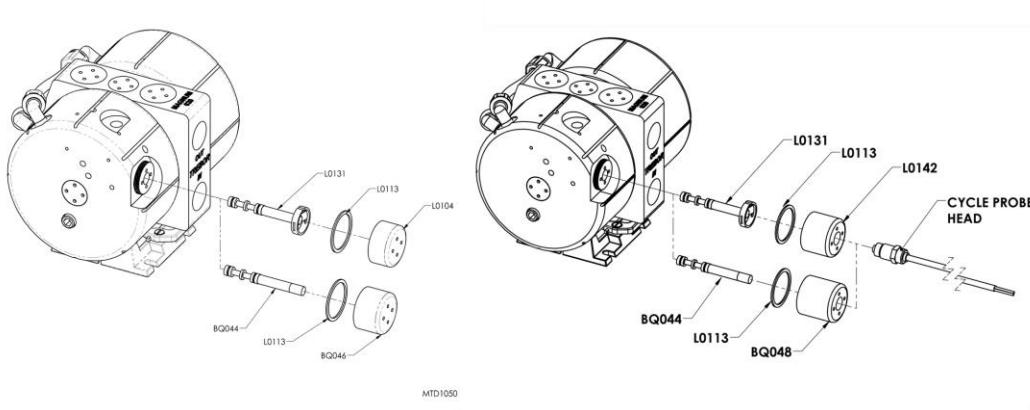

Figure 1-1
- Figure 1-1 shows an exploded view of the shuttle assembly, with mechanical components at the top and magnetic components at the bottom. The left image illustrates the standard shuttle configuration, while the right image depicts the configuration required when a cycle probe is installed.